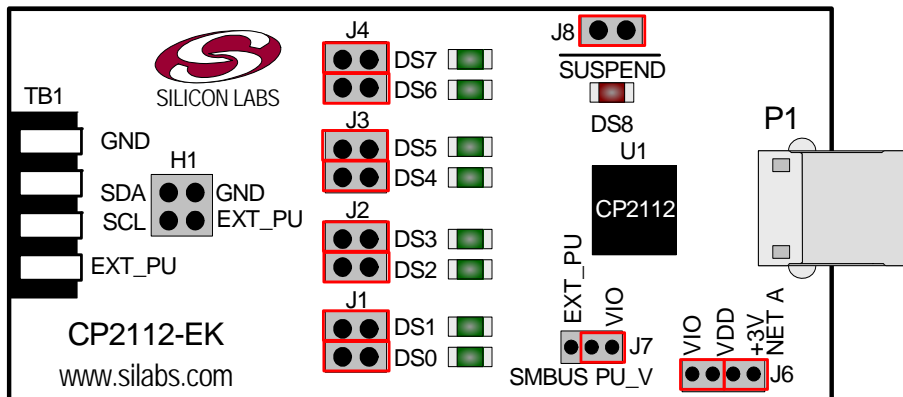
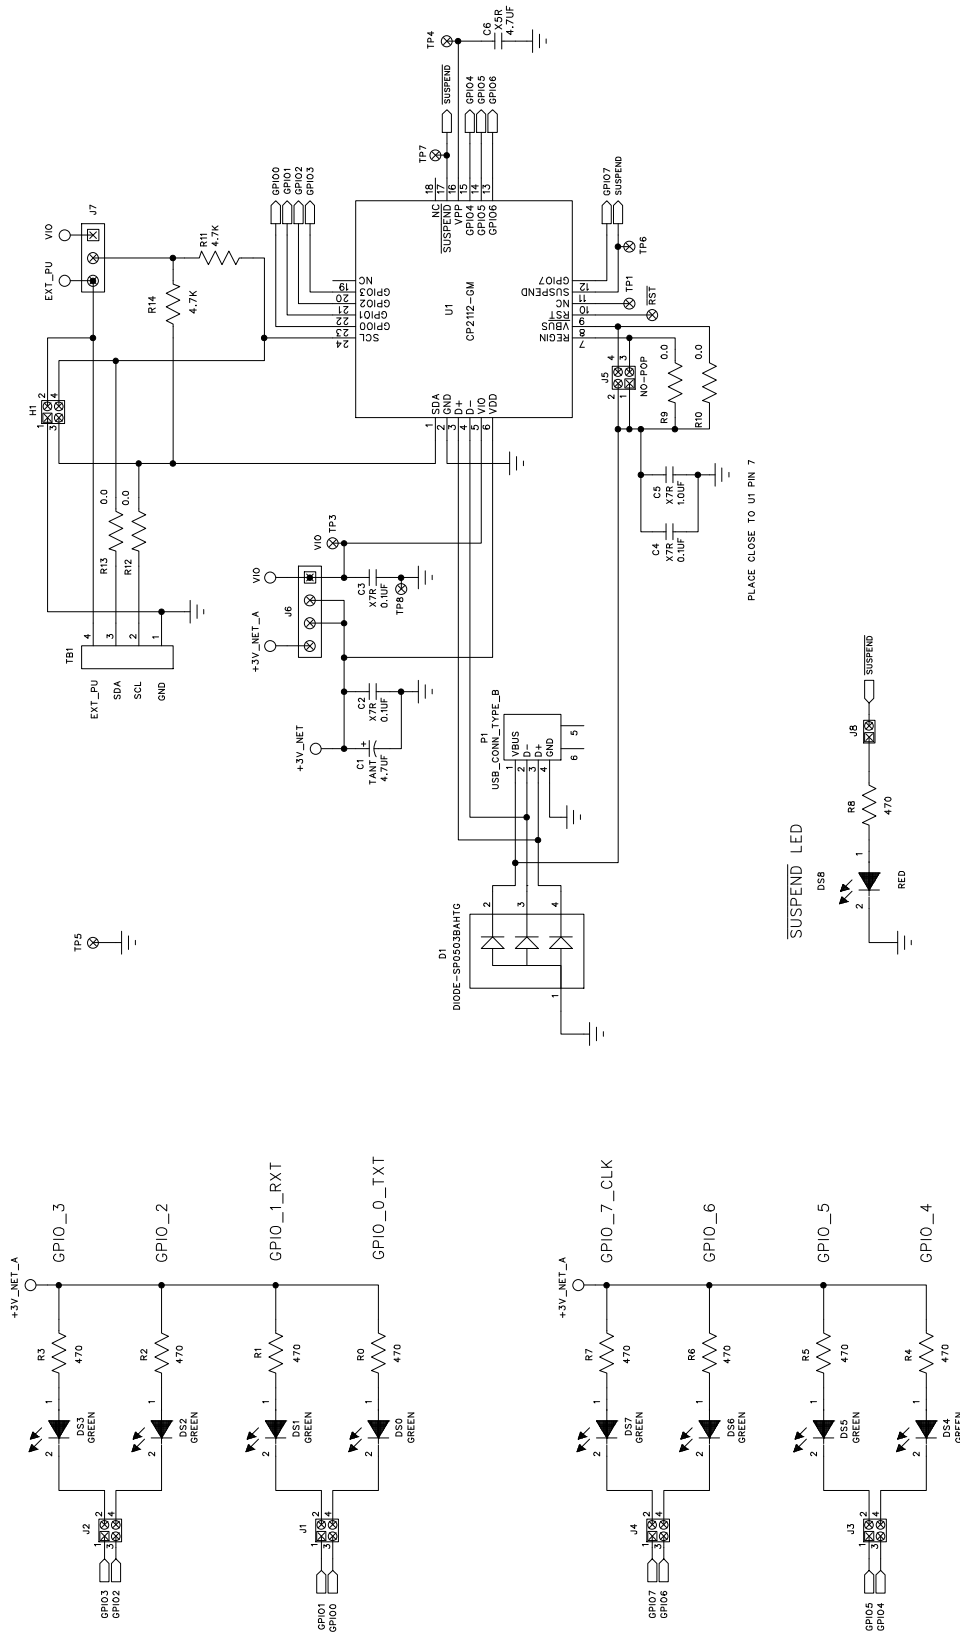

Figure 6. CP2112 Evaluation Board with Default Shorting Blocks Installed
Figure 7. CP2112 Evaluation Board Schematic
The CP2112 Evaluation Kit includes an evaluation board with a CP2112 device pre-installed for evaluation and preliminary software development. Numerous input/output (I/O) connections are provided to facilitate prototyping using the evaluation board. Refer to Figure 6 for the locations of the various I/O connectors. Refer to Figure 7, “CP2112 Evaluation Board Schematic” for information regarding the SMBus pull-up resistors that are located on the target board.
- Updated Figure 7 on page 8.